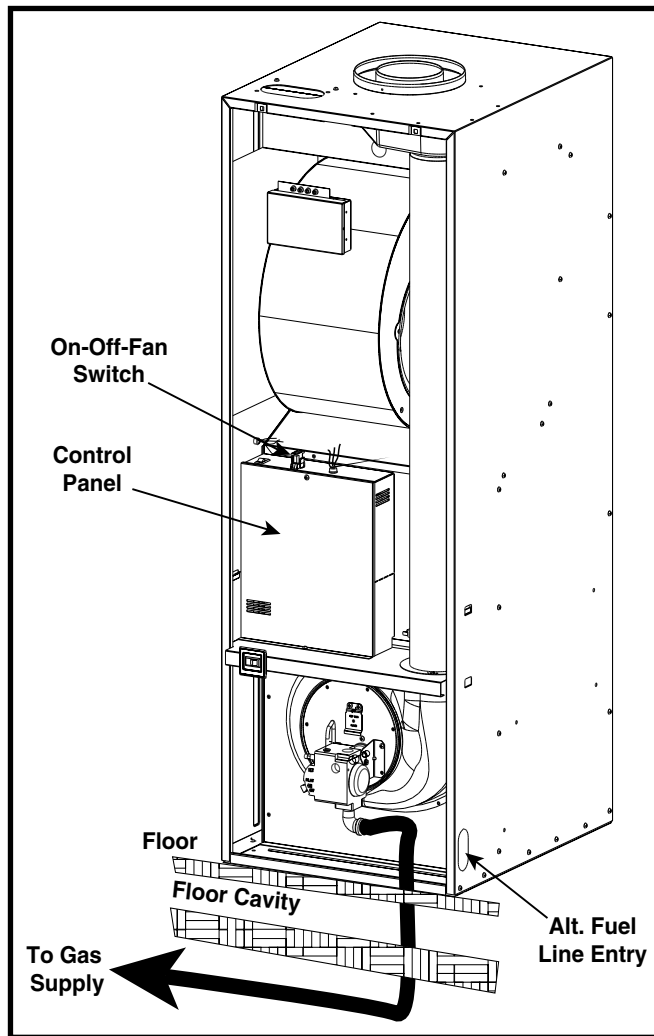
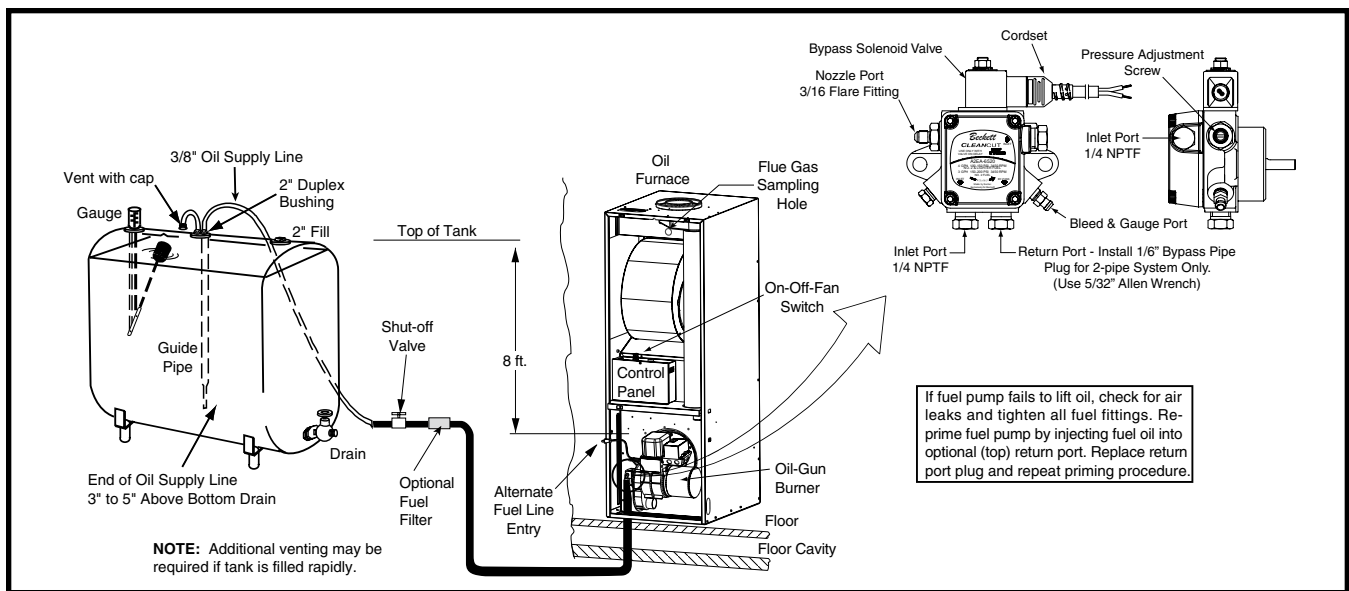

Figure 26. Typical Gas Piping
Figure 27. Typical Oil Piping for Above Ground (Single-Line) Supply
This furnace may be installed with left, right, or bottom gas entry. When connecting the gas supply, provide clearance between the gas supply line and the entry hole in the furnace casing to avoid unwanted noise and/or damage to the furnace. Typical gas service hookup for this furnace is shown in Figure 26 \(page 18\).
- Some local regulations require the installation of a manual main shut-off valve and ground joint union external to the furnace. See Figure 27 \(page 19\). The shut-off valve should be readily accessible for service and/or emergency use. Consult the local utility or gas supplier for additional requirements regarding placement of the manual main gas shut-off.
- Fuel line installations other than typical installations shown in Figure 26 \(page 18\) & Figure 27 \(page 19\) must comply with the fuel piping provisions stated in the Federal Manufactured Home Standard (H.U.D. TITLE 24, PART 280) and the National Fuel Gas Code (ANSI-Z223.1/NFPA-54).
- A fuel or tank gauge is recommended for easy checking of the fuel level. Check the gauge reading with a dipstick. See Figure 27.
The One-Line System is highly recommended where vertical lift, from bottom of tank to pump, is less than 8 feet (Figure 27). A single line hookup has the advantage of lower cost and quieter operation.
2. Install duplex bushing for two 3/8" lines in the top fitting of the tank. See Figure 27.